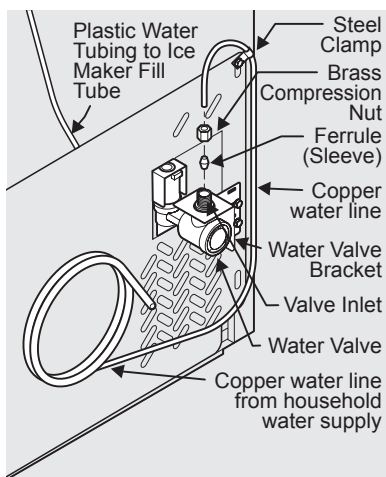

Figure 1
4. **If you use copper tubing** - Slide brass compression nut, then ferrule (sleeve) onto water supply line. Push water supply line into water valve inlet as far as it will go (1/4 inch/6.4 mm). Slide ferrule (sleeve) into valve inlet and finger tighten nut onto valve. Tighten another half turn with a wrench; DO NOT overtighten. See Figure 1.